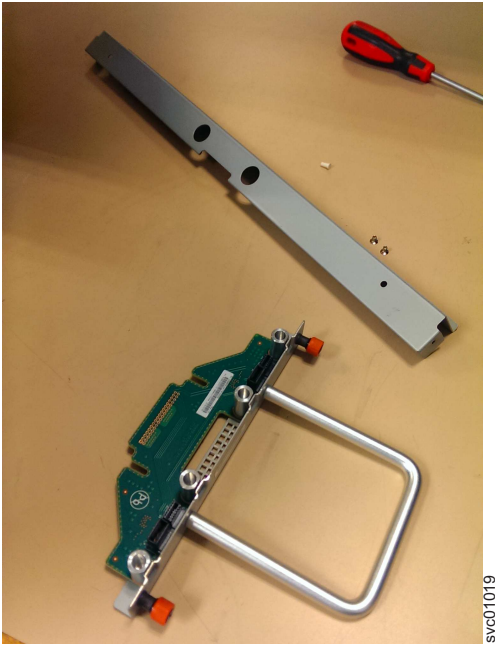

Figure 105. FIB parts removed from the chassis
4. Place the FIB (shown in Figure 105) in a safe location.